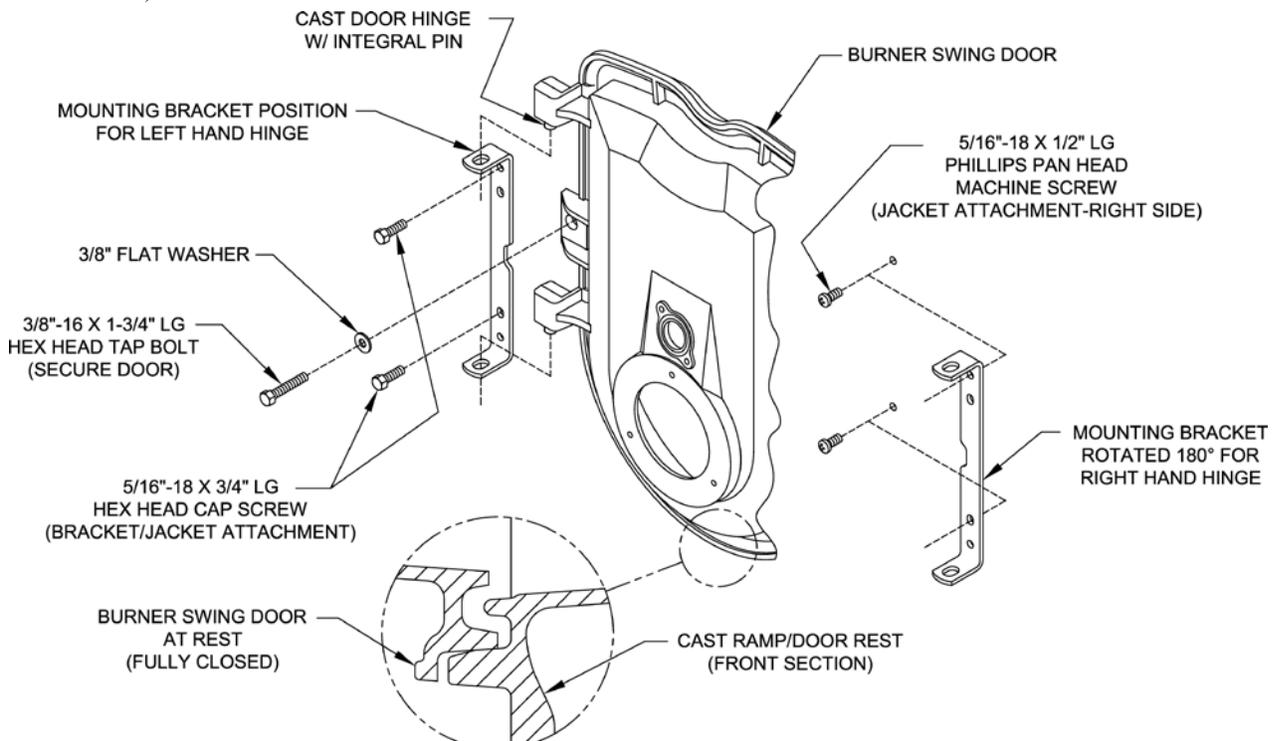

Figure 4A: Partial Front View - Burner Swing Door Mounted to Boiler - Fully Closed and Secured
(see Figures 4A and 4B).
- To reverse hinge arrangement (see Figure 4A):
3. To close Burner Swing Door (see Figures 4A and 4B):
Step 2. If necessary, place your right hand under the burner air tube to lift upward. Lift the door up unto the built-in cast ramp/door rest (protruding from the bottom of the front section casting - see Figure 4A).